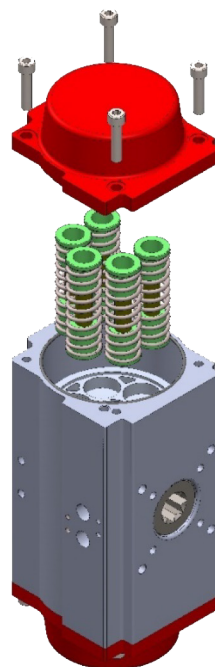

Figure 8: SR End Cap Removal
1. Loosen all end cap bolts evenly, to allow the springs to push the end caps out from the body. The springs are contained on spools and the tension will be relaxed when the end cap is removed. See figure 8.